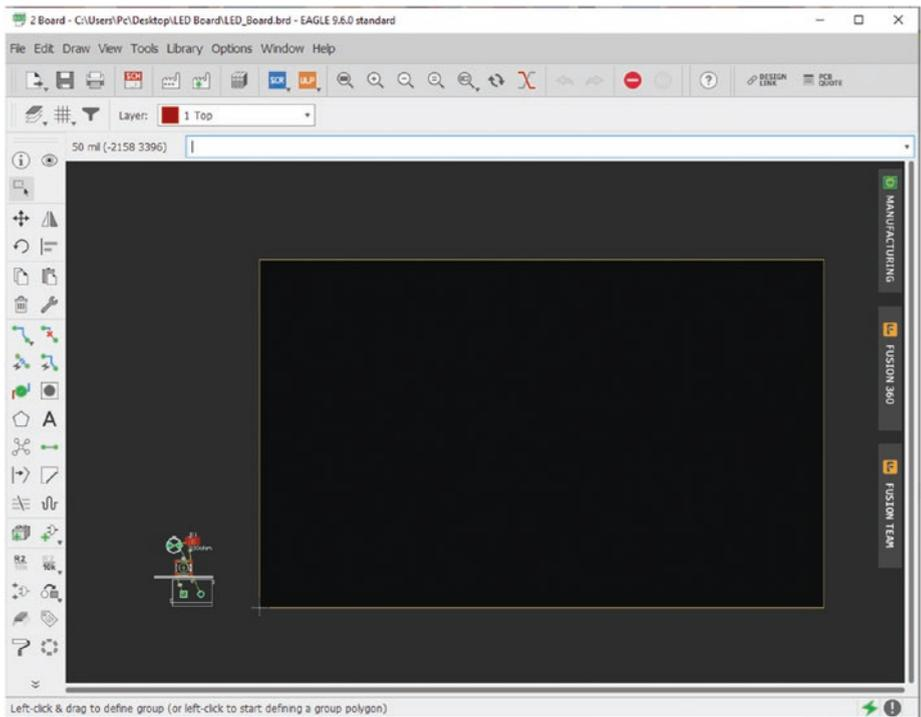

Figure 5-51. Board window for LED_Board
- 39. This file will automatically be saved as LED_Board.brd. See Figure 5-51.